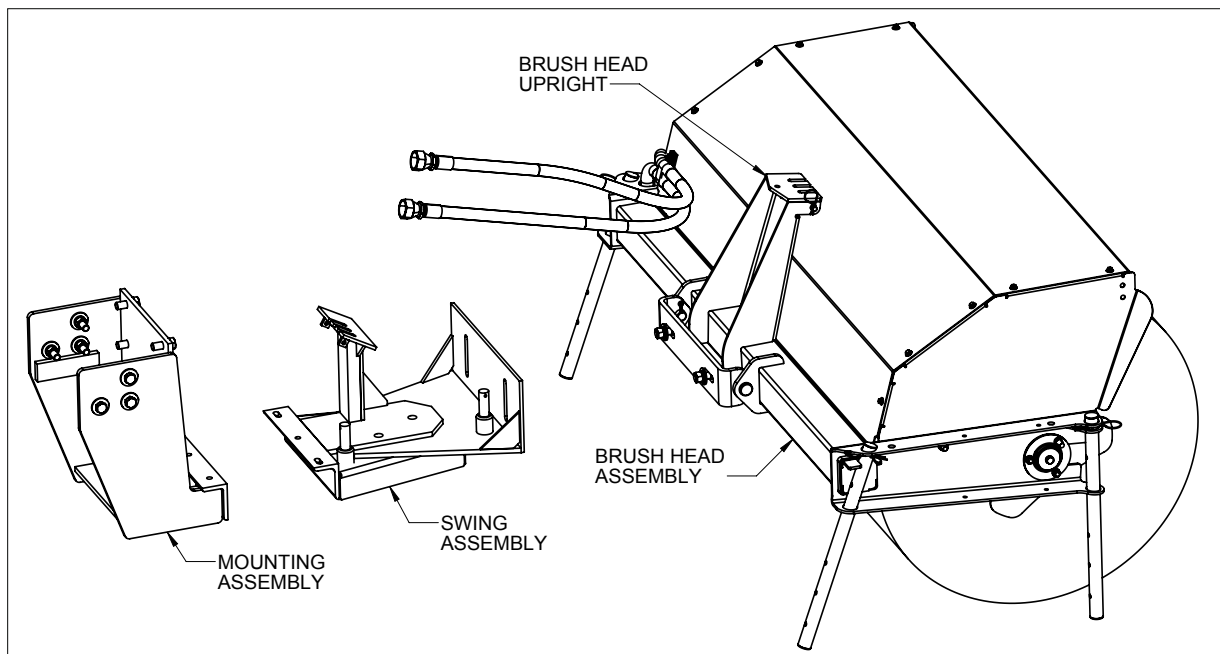

figure 1
1. Install the mounting assembly (figure 1) according to instructions included with the mounting assembly.
2. Position the swing assembly in front of the mounting assembly (figure 1).
4. Position the brush head assembly in front of the swing assembly (figure 1).